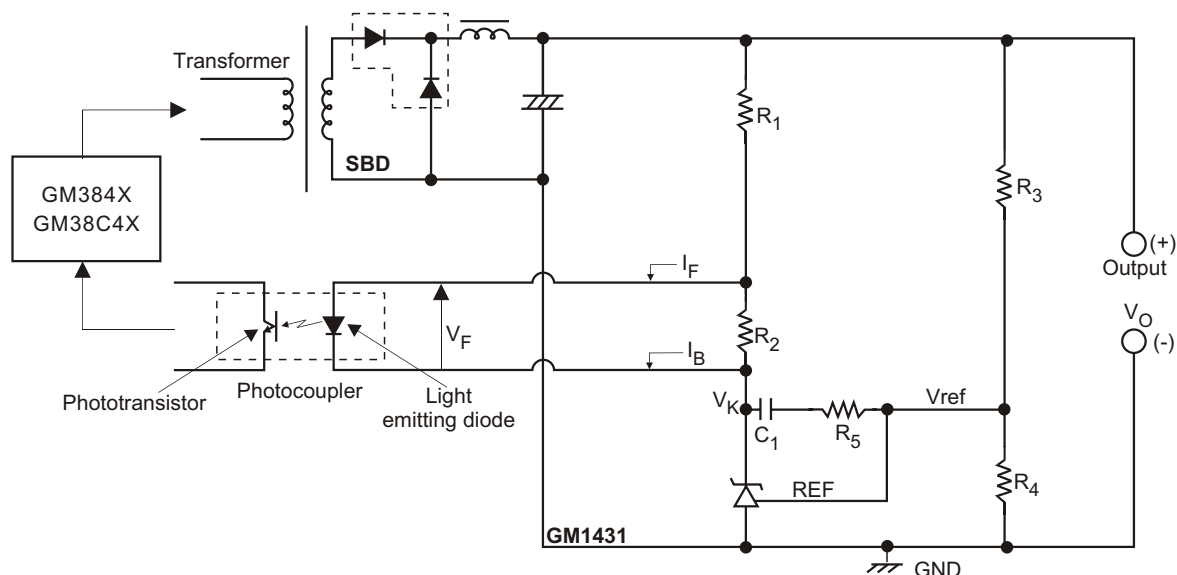
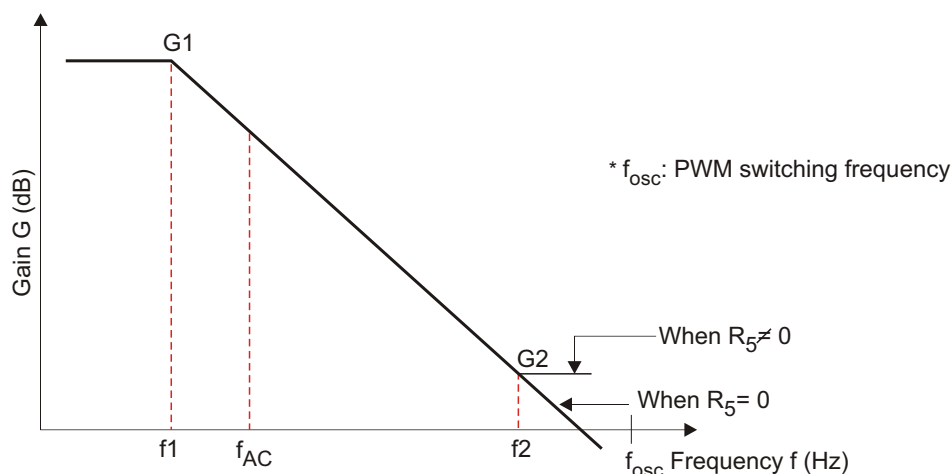

Figure 16. Typical Shunt Regulator/ Error Amplifier
Figure 17. GM1431 Error Amplification Characteristic
**Dc characteristic determination:** In figure 16,  $R_1$  and  $R_2$  are protection resistor for the light emitting diode in the photocoupler, and  $R_2$  is a bypass resistor to feed  $I_K$  Minimum, and these are determined as shown below. The photocoupler specification should be obtained separately from the manufacturer. Using the parameters in figure 16, the following formulas are obtained:
This refers to the determination of the gain frequency characteristic of the shunt regulator as an error amplifier. Taking the configuration in figure 16, the error amplifier characteristic is as shown in figure 17.
In Figure 17, the following formulas are obtained: